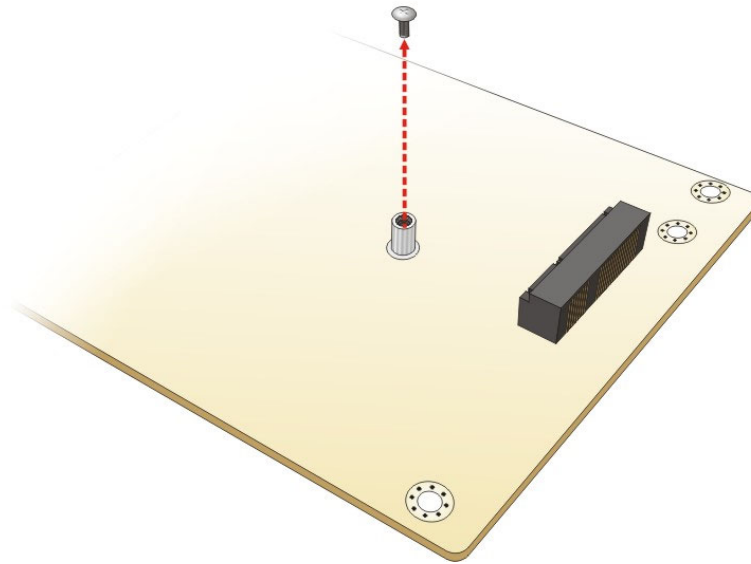

Figure 4-2: Removing the Retention Screw for the iRIS-1010 Module
- Step 2:** **Remove the retention screw**. Remove the retention screw as shown in **Figure 4-2**.